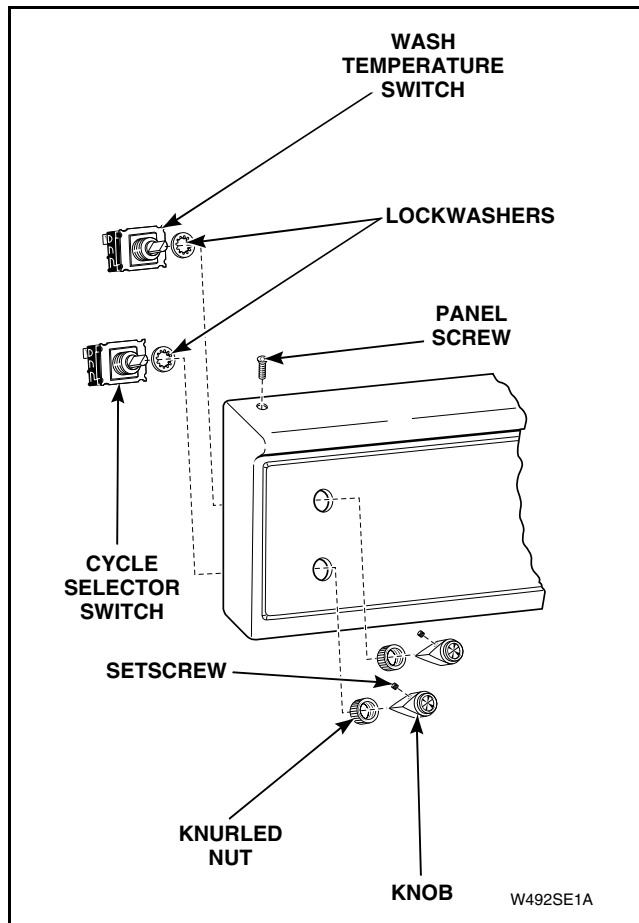

Figure 7
- (2) Loosen setscrew holding switch knob to switch shaft. Refer to *Figure 7*.
- (3) Remove knurled nut holding switch to control panel. Refer to *Figure 7*.
NOTE: Lockwasher must be between switch and control panel when installing switch. Refer to *Figure 7*.
- (2) Loosen setscrews holding switch knobs to switch shafts. Refer to *Figure 7*.
- (3) Remove knurled nuts holding switches to control panel. Refer to *Figure 7*.
NOTE: Lockwashers must be between switches and control panel when installing switches. Refer to *Figure 7*.